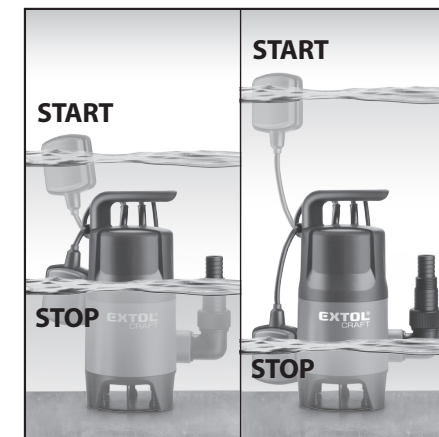

Fig. 2
➔ The adjustable length of the float cord makes it possible to set the water level at which the pump will start and stop, see Fig.2.
• For the float switch to function correctly, the distance between the float switch and the float switch fixture must not be too small. The described principle is shown in Fig. 2.